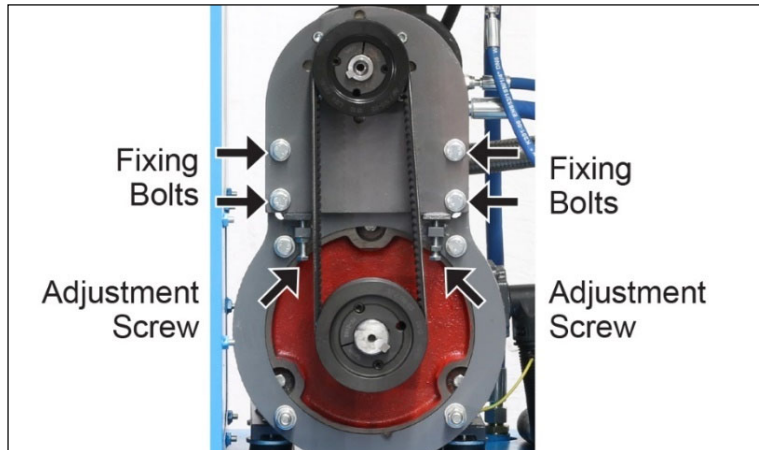

Figure 6-4 V-Belt Tension Adjustment
- c. To adjust the V-belt tension, it is first necessary to remove the V-belt drive guard. Then the four fixing bolts above the main motor should be slightly loosened, and subsequently the adjustment screws turned equally to move the air end up or down to tension the V-belts as required. After adjustment, the fixing bolts should be retightened. Refer to Figure 6-4.